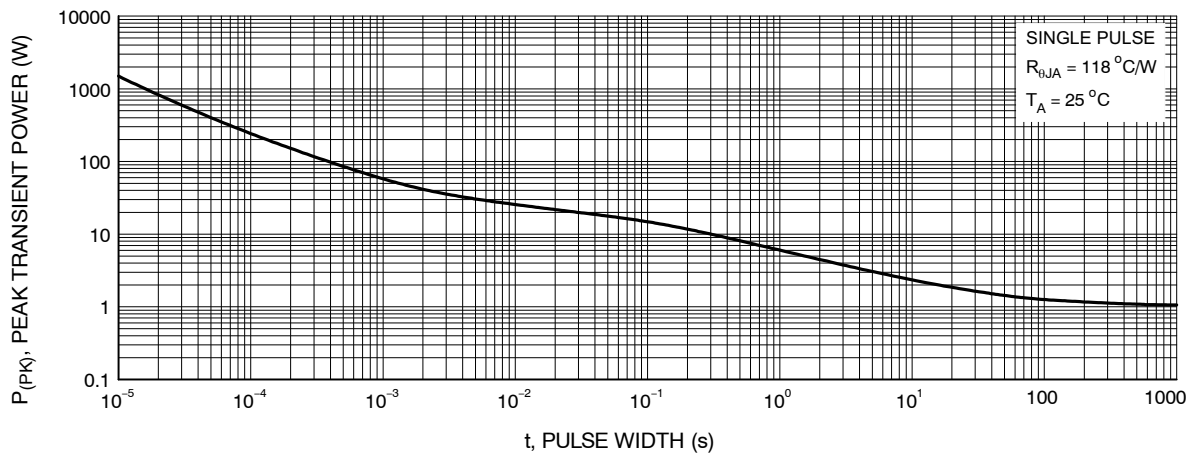

Figure 11. Single Pulse Maximum Power Dissipation
4. Pulsed I_d please refer to Figure 11 SOA graph for more details.